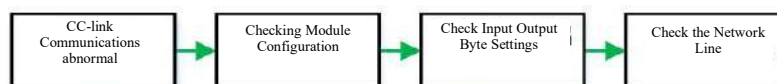

Figure 6-2-4 Troubleshooting process
- Figure 6-2-4 shows the troubleshooting process when communication is abnormal.